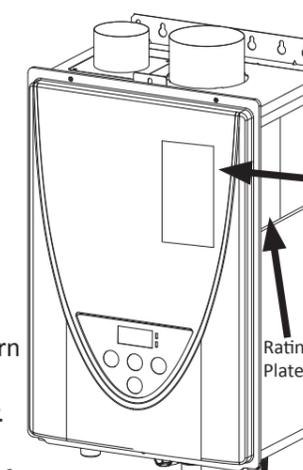

Figure 4
- Fill out all items on the gas conversion sticker with a permanent marker. Affix the label on the upper right side of the front cover of the heater as shown in Figure 4.